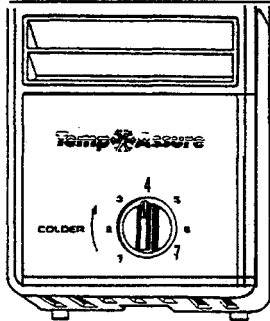

Figure 1
- a. Locate refrigerator control at inside back top of refrigerator section. See Figure 1.